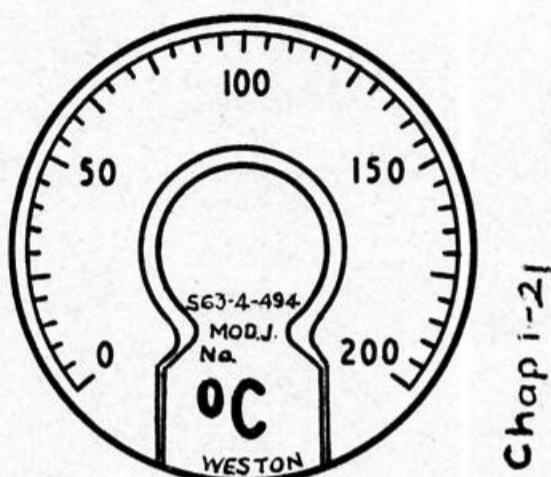

Fig. 1. Indicator, Type S63.4.494
1. This indicator (Ref. No. 6A/7135) (fig. 1) is calibrated in degrees C from 0 to 200; the indicator is controlled by variation of temperature in a resistance bulb which obeys a platinum law.